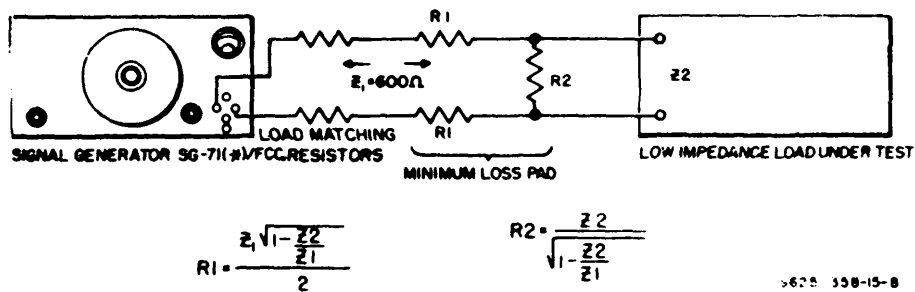

Figure 3-9. Connection of load-matching resistors and minimum loss pad to signal generator when operated into loads of less than 600 ohms.
connected in series to the output terminals of the signal generator (figs. 3-9 and 3-5). This connection is necessary for 600-ohms impedance at the frequency to be used.
- (2) A *minimum loss* pad (fig. 3-9) is connected in series-parallel in the circuit from the output load-matching resistors to the low impedance load under test.
- (3) A matching system, including formulas that can be used for determining the pad resistance, is shown in figure 3-9.
- (4) To determine the input dc voltage to the load under test, connect Voltmeter, Electronic ME-39(\*)/U in the circuit under test.